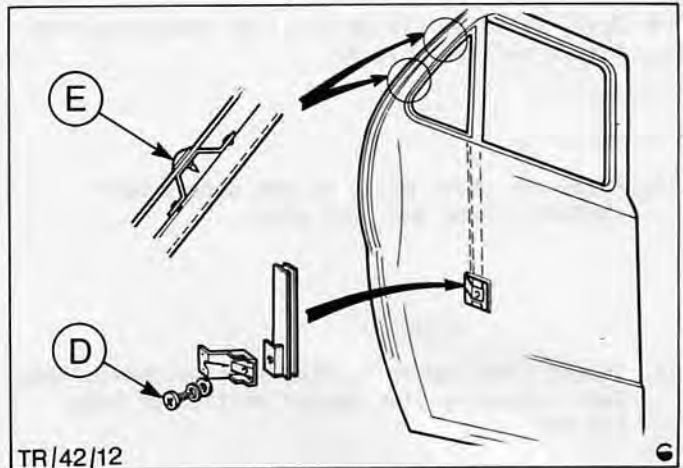

Fig.96. Remove door quarter light.
4. Remove quarter light, by removing 2 screws on the door frame and 1 screw on the inside door panel, Fig.96.